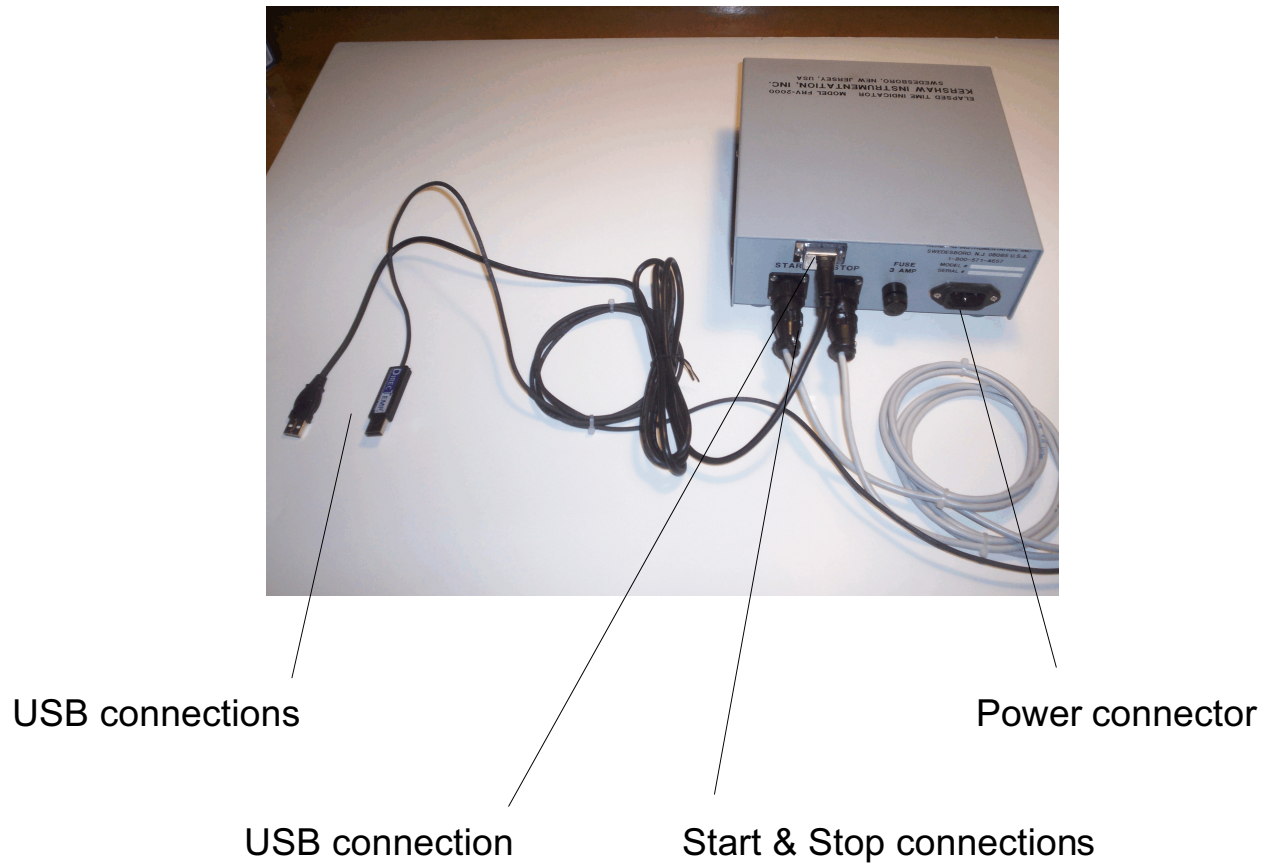

Figure 4: Elapse Timer details
4.1 Rod Sensors - Connect the round “Start” and “Stop” sensor connections to the connectors on the rear panel of the elapse timer as shown in Figure 4.
4.2 USB connection - Plug a standard USB cable (supplied) to the USB connector on the rear panel of the elapse timer as shown in Figure 4.
4.3 Power Connection - Connect the power cord to the power connector on the rear panel of the elapse timer as shown in Figure 4.